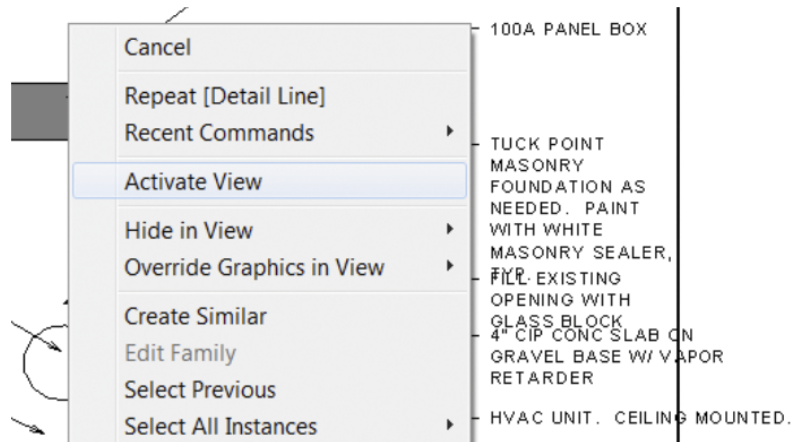

FIGURE 12.22 Activate the Basement view.
11. Right-click the Basement view, and choose Activate View from the context menu (Figure 12.22). You can also double-click your mouse on the view to activate it.